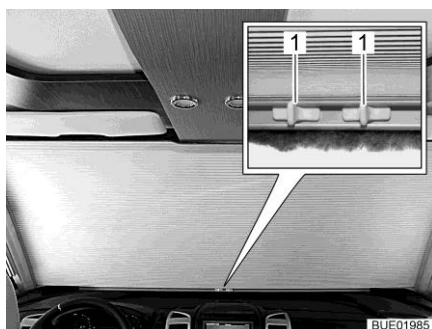

Fig. 103 Manual windscreen shade, closed
- Clench handles (Fig. 103,1).